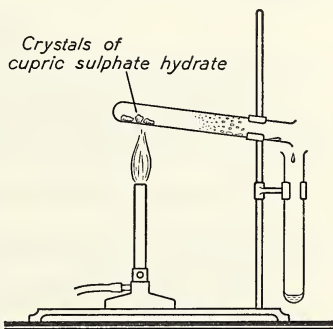

Fig. 41. The dehydration of bluestone.
1. Gently heat a few crystals of cupric sulphate hydrate (bluestone) in a clean, dry test-tube clamped to a retort stand, with the mouth slightly lower than the rest of the tube. Clamp on a second test-tube vertically, as shown in Figure 41. Increase the temperature gradually until the crystals are being strongly heated. Test a drop of the material caught in the vertical tube with anhydrous cupric sulphate.